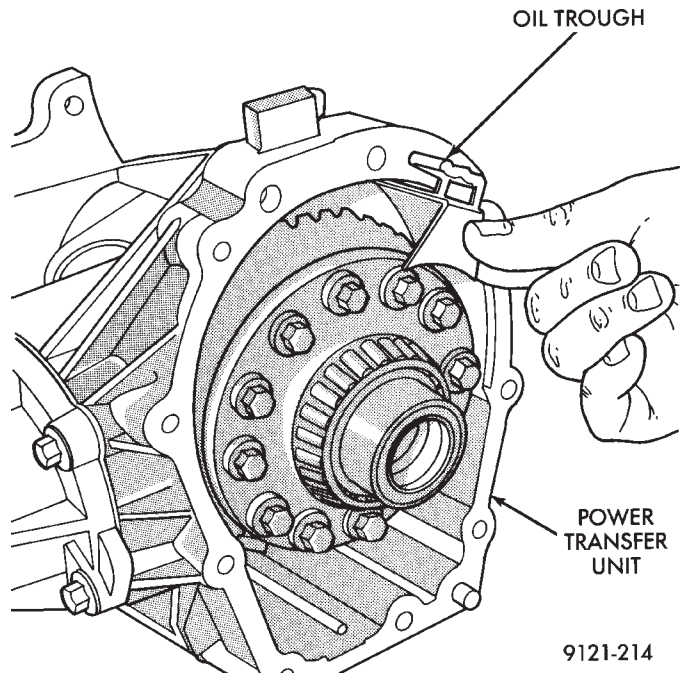

Fig. 3 Oil Trough
- (3) Remove ring gear oil slinger (Fig. 3).